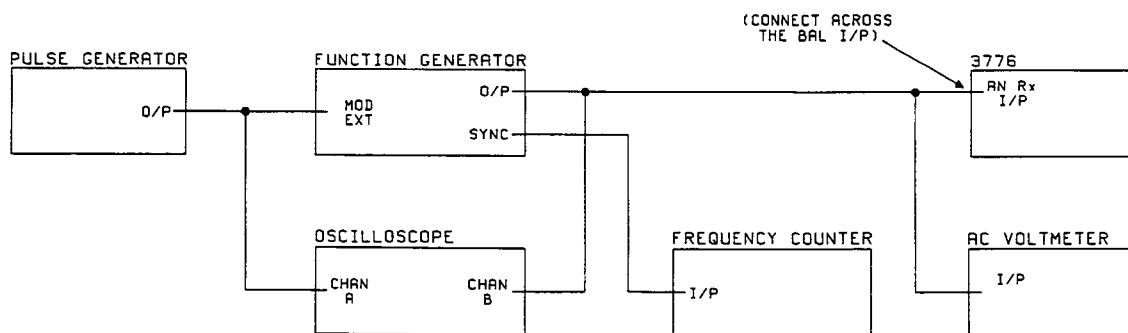

Figure G9-3 Dropouts and Interruptions
3. Connect the test circuit as shown in Figure G9-3.